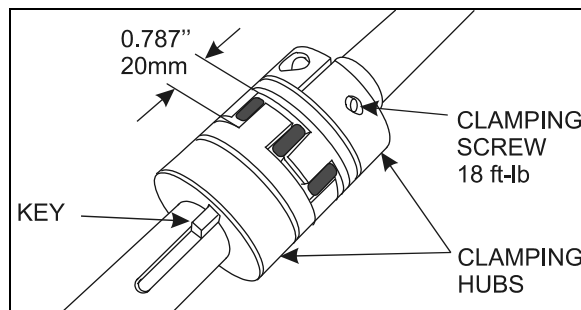

FIGURE 20 : JAW COUPLING
8. Reconnect the clamping hubs with the spider. Leave a gap of 20mm (0.787inch) between each clamping hubs as shown on FIGURE 20. Use the motor hexagonal socket output shaft to align the keyways.